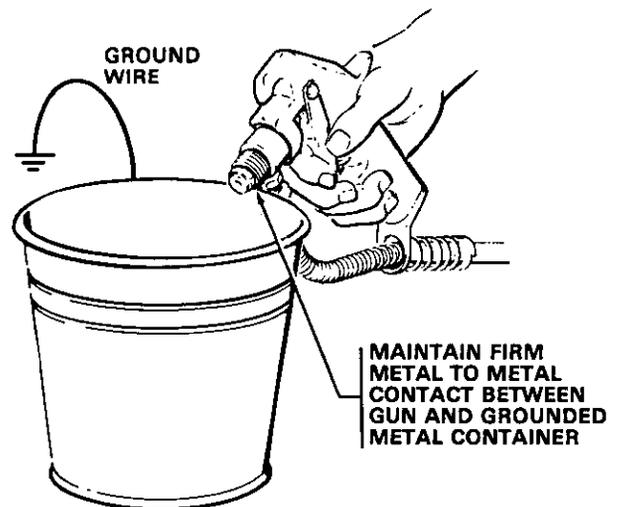

Fig 8
6. Disengage the gun safety latch. Point the spray gun into a grounded metal waste container and with a metal part of the gun firmly touching the metal container, squeeze the gun trigger. See Fig 8. **This procedure helps reduce the risk of static sparking and splashing.** With the gun triggered, turn